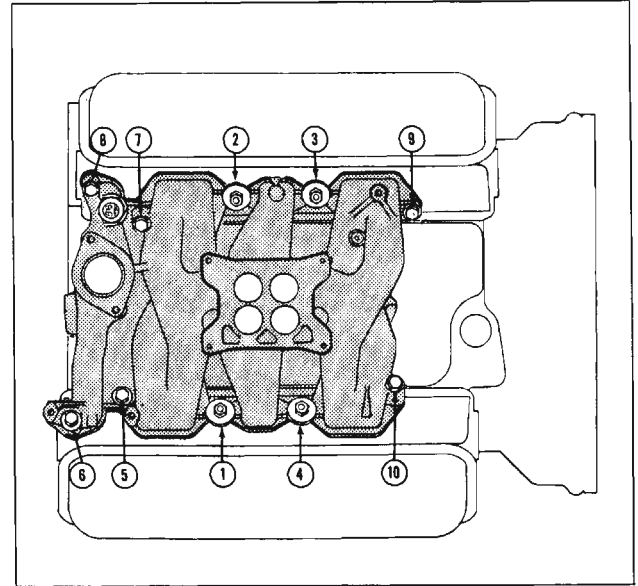

Fig. 8-2 Intake Manifold Torque Sequence
2. Dip threads of intake manifold bolts in C.P. No. 9 sealer (Nat. Machine Prod. Co.). Install manifold bolts and nuts and torque 22 to 34 ft. lbs. in sequence as shown in Fig. 8-2.